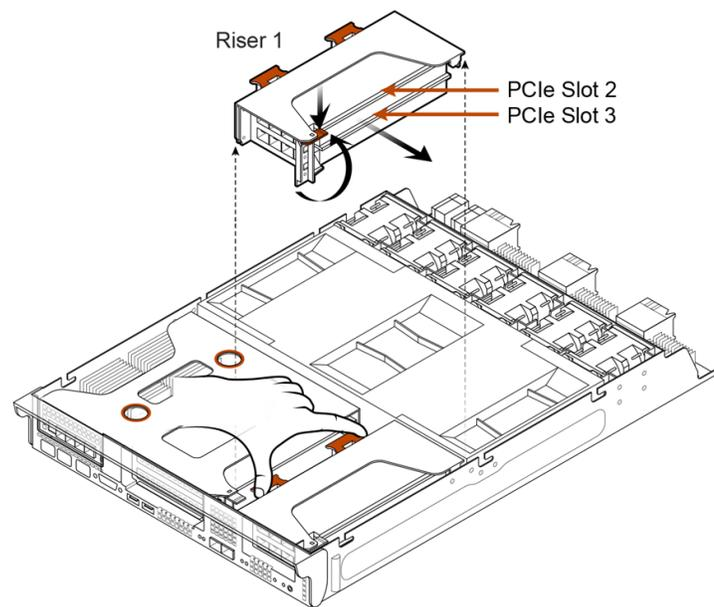

Figure 14-7. Removing Riser 1
1. Use two hands to remove Riser 1. Grip the two finger holds as shown in Figure 14-7, grasp the riser frame, and pull it straight up to remove it from the chassis.